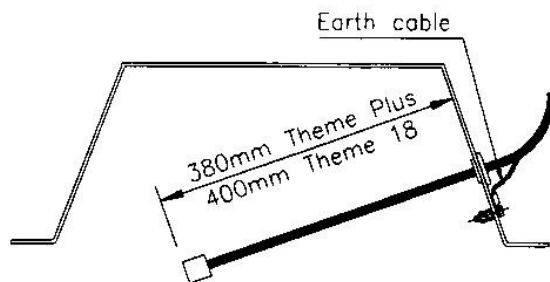

Fig. 9a
6. Bring the 4-way plug and cable through the right hand hole in the side of the convection box ready for connection to the burner (see Fig. 9a). (Do not bring the earth cable through this hole) Coil up any excess and place between the insulation slab and the wall.